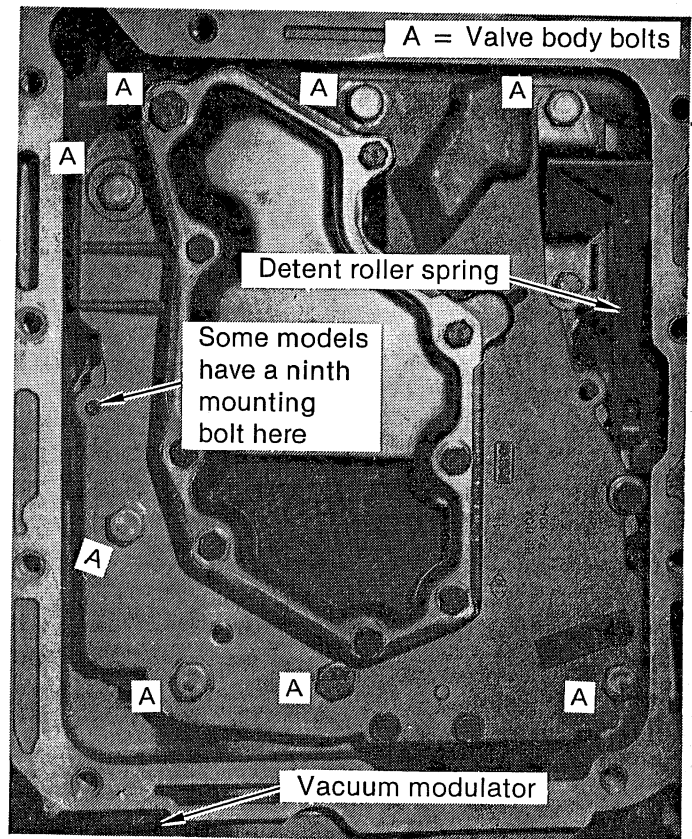
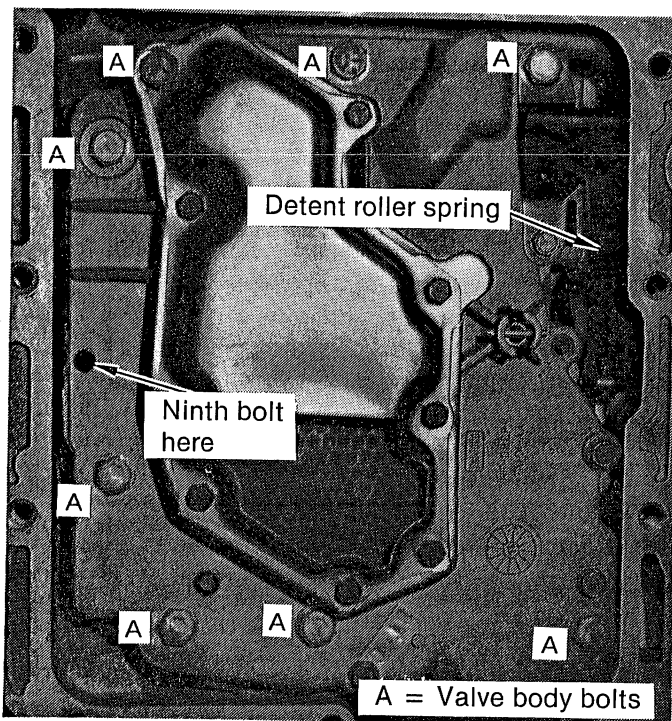

FIGURE 2 (ALL EXCEPT PINTO)
FIGURE 3 (PINTO ONLY)
Note how it moves freely with no bind. Observe how the internal linkage engages the valve body. Note position of detent roller spring. (See Fig. 2)
STEP 3. Remove the eight or nine valve body attaching bolts (See Fig. 2) and remove the valve body by pulling straight down. Keep drain pan positioned as there is still a pint of oil between valve body and case. Upon removing last bolt some oil will escape between case and valve body. Put the valve body in the oil pan. Pinto models have a check valve next to the screen. (See Fig. 3). Note: Detent roller spring comes out with valve body (See Fig. 2).
STEP 5. If your unit has a bolt-in modulator (See Fig. 2), remove it and install new modulator supplied with kit along with new gasket. Make sure rod is in place between modulator and valve. Do not use gold rod in kit. If you have a push-in modulator that is retained with a clamp, make no modifications at this time.